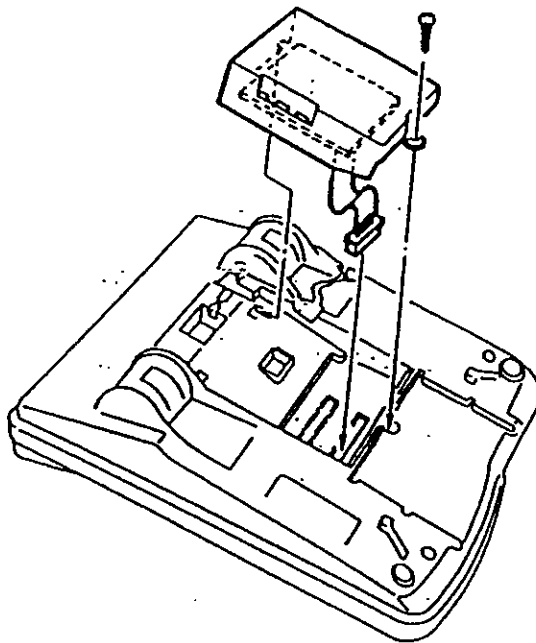

Figure 1-61 ADA (1)-W (GG) Unit or ADA (2)-WA (GG) Unit Installation
5. Mount the ADA (1)-W (GG) Unit or ADA (2)-WA (GG) Unit into the Multiline Terminal using the screw provided (component side down). (Refer to Figure 1-61 - ADA (1)-W (GG) Unit or ADA (2)-WA (GG) Unit Installation.)